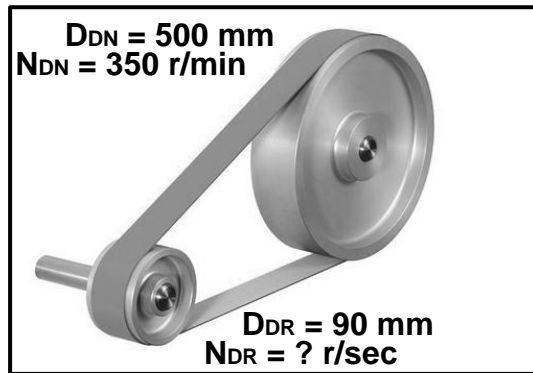

FIGURE 11.3
11.3 FIGURE 11.3 below shows a flat belt drive system. The tensile force of the belt in the tight side is 1 900 N and the force in the slack side is 450 N.